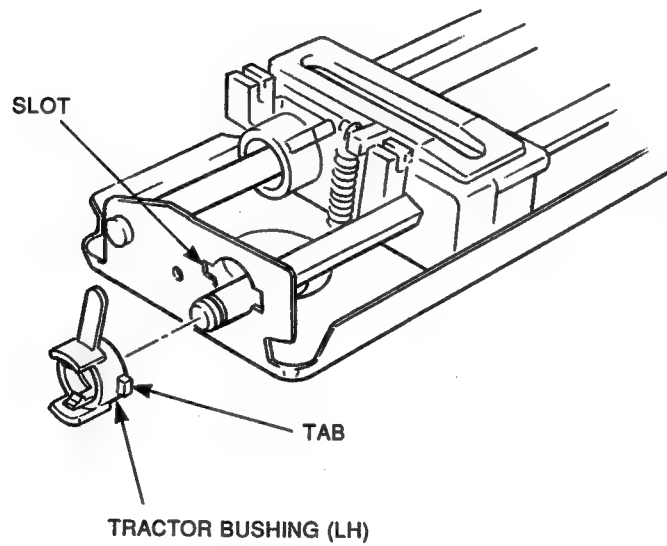

Figure 3-59 Tractor Bushing (LH)
3. Releasing the locking tab, turn the tractor bushing (LH) until the tabs on the bushing align with the slot on the tractor frame and remove it (see Figure 3-59).